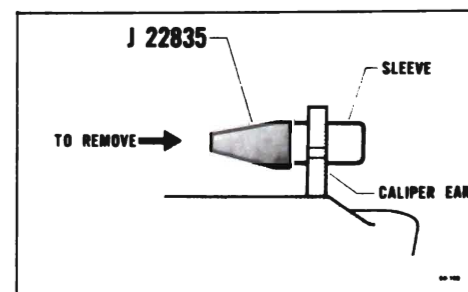

Figure 50-34--Remove Sleeves
4. Using tool, No. J-22835, remove the sleeves from the inboard ears of the caliper. See Figure 50-34. Next, remove the rubber bushings from the grooves in each of the four caliper ears.